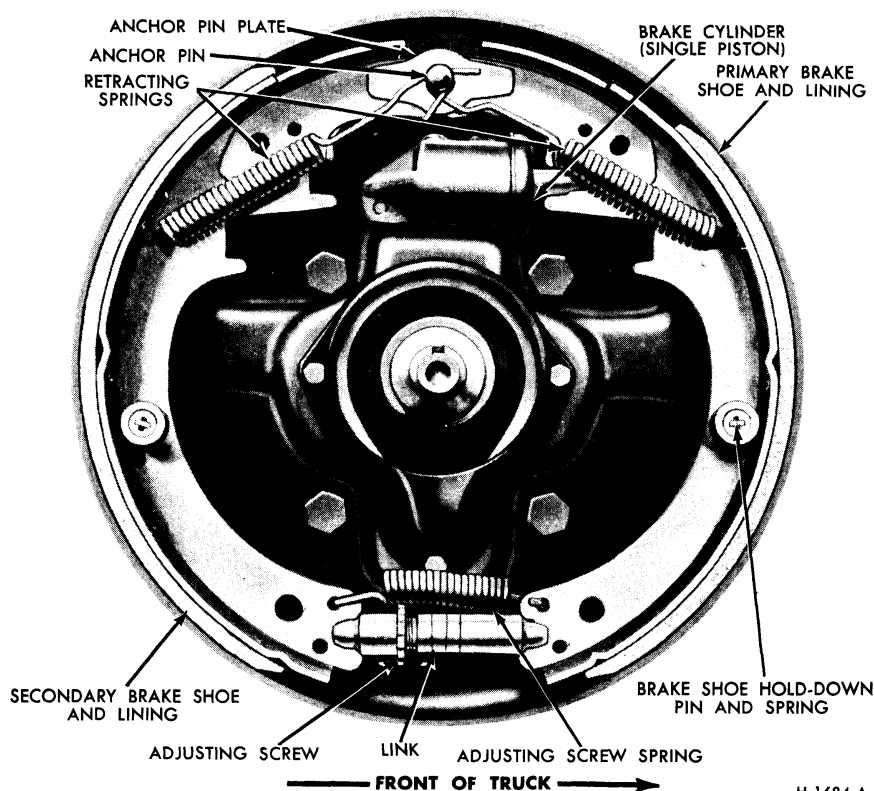

FIG. 2 Single Anchor Brake Shoe—Front—P-500
Refer to Figure 2.
3. Remove the anchor pin plate (Fig. 2).